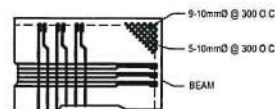

FIG. 3. CORNER SLAB
- EXTRA REINFORCEMENTS SHALL BE PROVIDED AT CORNER SLAB AS SHOWN IN FIGURE 3.